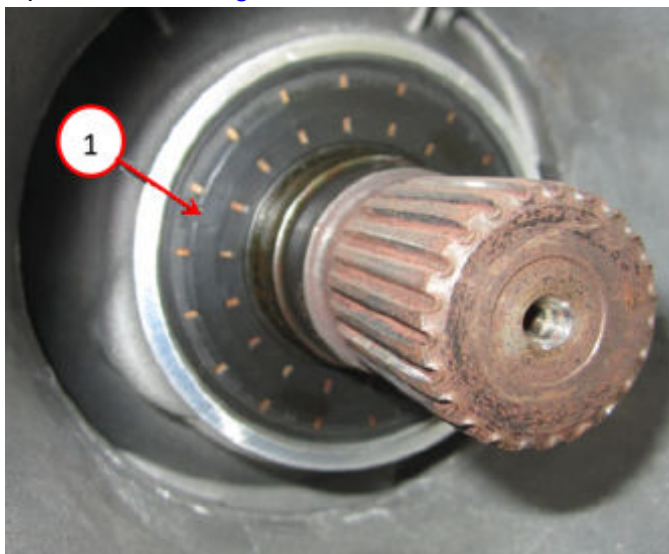

Fig. 4
4. Remove the transmission output shaft seal Fig. 4.